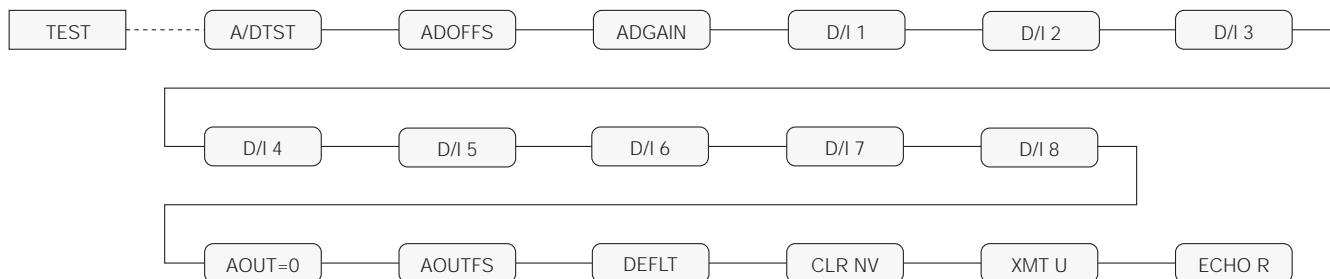
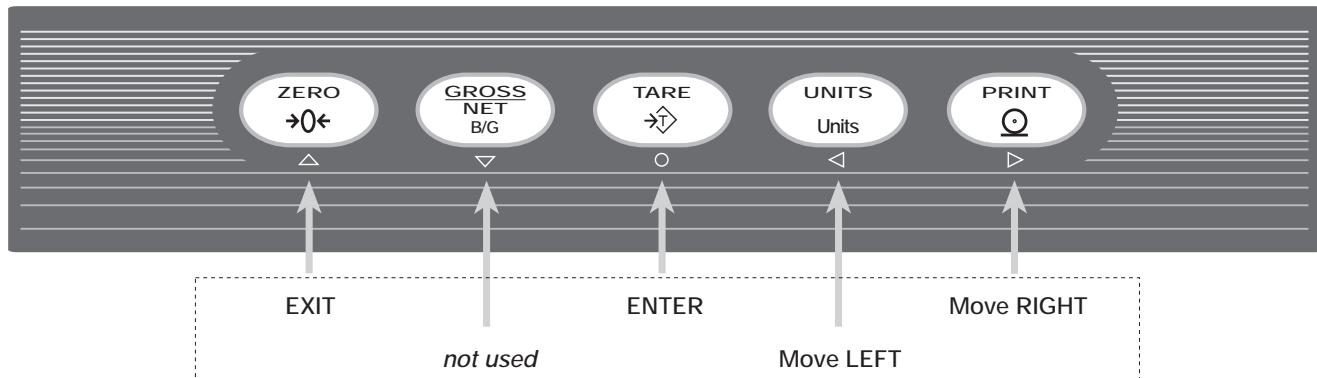

Figure 7-6. Test Menu
Figure 7-7. Front Panel Key Functions in Test Mode
Figure 7-6 shows the Test Menu structure; Figure 7-7 shows the front panel key functions in test mode. Note that, because the Test Menu functions are all on a single menu level, the GROSS/NET ( $\nabla$ ) key has no function. Press the ZERO ( $\Delta$ ) key to exit test mode.
- Restore defaults (DEFLT)Use the navigation keys (press  $\triangleleft$  or  $\triangleright$  to scroll left or right) to go to the *CLR NV* and *DEFLT* menu items (see Figure 7-6 on page 48).